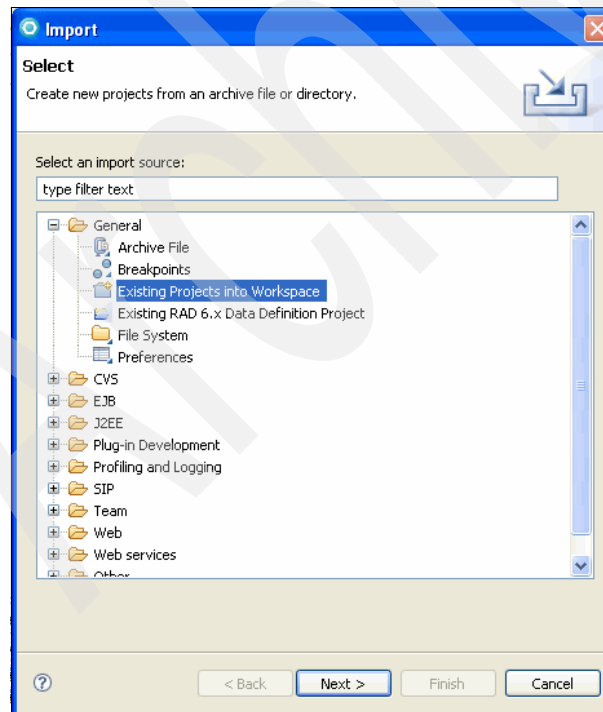

Figure 9-5 Importing existing projects into the workspace
3. In the Import – Select window (Figure 9-5), expand **General** and select **Existing Projects into Workspace**. Then click **Next**.